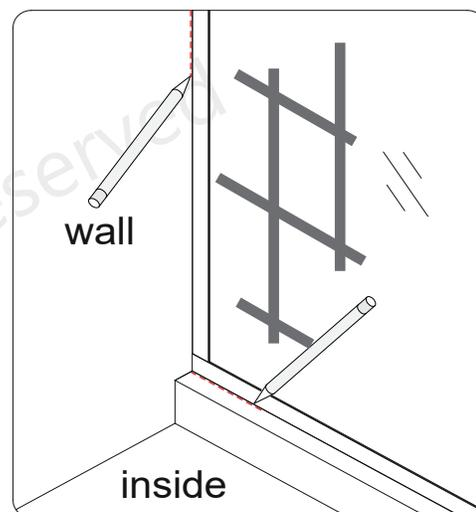

Fig 15
15. Once the **Stationary Panel Glass (#11)** is aligned with the **Door Glass (#01)**, mark the positions of the **U-Channels** on the threshold and wall. **(Fig 15)**